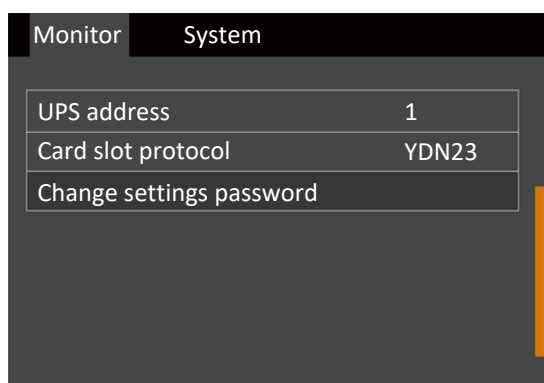

Figure 5-23 Changing Settings Password
2. Press the key, then press the key to select 'Change settings password', see Figure 5-23.